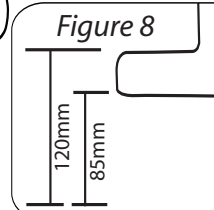

Figure 8
STEP 4 Now drill through the remaining two 'Head' fixing holes to a depth of 85mm. Figure 8 shows the required depth of the drill from ground level and including the product. This time the 'Head' does not need to be removed as the hole can be drilled through the moulding as shown above.